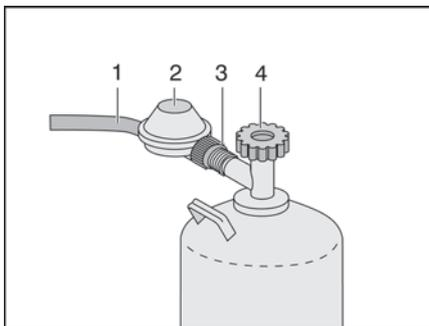

Fig. 60 Gas bottle connection
- ▶ Hold the gas pressure regulator (Fig. 60,2) and open the knurled nut (Fig. 60,3) (left-handed thread).
- ▶ Remove the gas pressure regulator and the gas tube (Fig. 60,1) from the gas bottle.
- ▶ Position the gas pressure regulator (Fig. 60,2) and the gas tube (Fig. 60,1) on the gas bottle and tighten the knurled nut (Fig. 60,3) by hand (left-handed thread).
- ▶ Close the regulator tap (Fig. 60,4) on the gas bottle. Pay attention to the direction of the arrow.